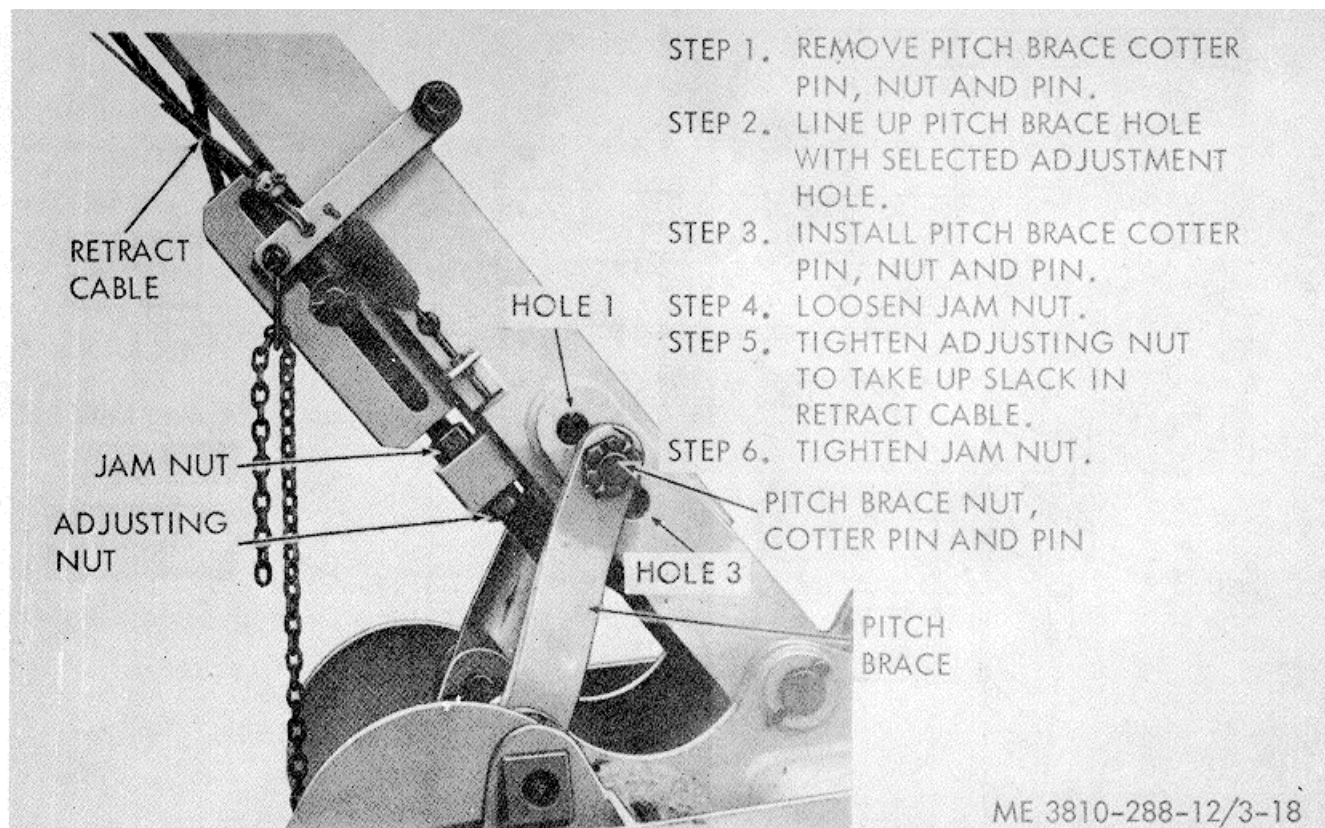

Figure 3-18. Rake angle and retract cable adjustment
(3) Rake angle adjustment. Refer to figure 3-18 and adjust the dipper pitch braces in accordance with the type of material being moved and the working conditions. In general, pin the pitch brace in hole 1 for easy digging and low bank cuts. Pin the brace in hole 2 for medium or average soil conditions and bank heights, and in hole 3 for hard digging, high banks, and when grading the area.
(4) Retract cable tension adjustment. Refer to figure 3-18 and adjust retract cable tension.
(5) Dipper tip cable adjustment. This adjustment should not normally be necessary unless